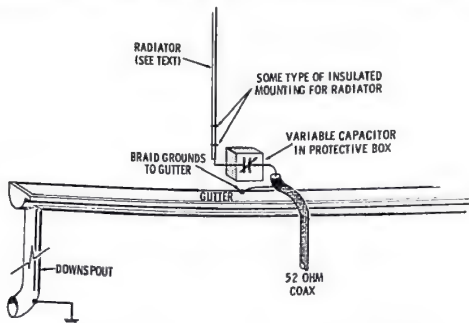

Fig. 3-12. System of tuning the antenna with an SWR meter.
1. Complete the hook-up as shown in Fig. 3-12. Grounding the gutter at one or both ends may not be necessary, but is a good idea if practical to do.